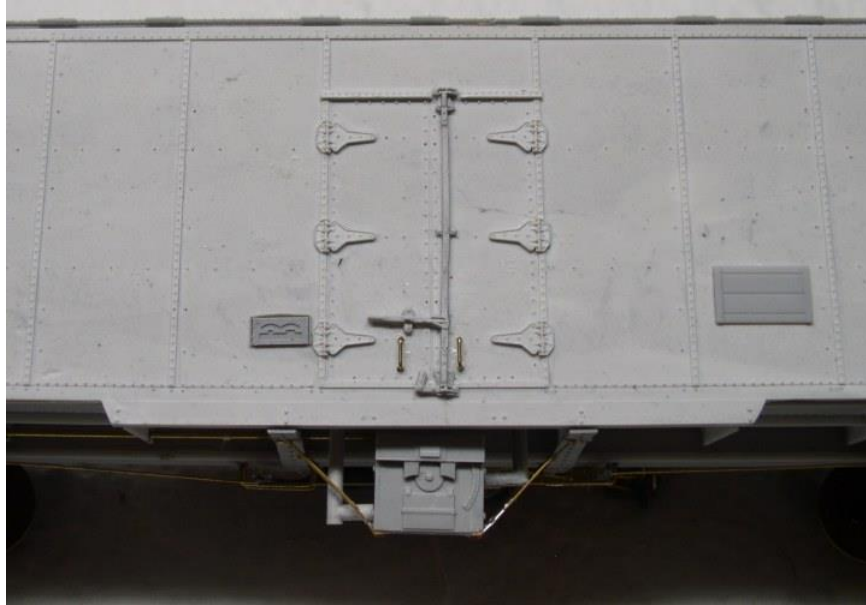

Figure LD2
- The Liquidometer originally was placed beside the lowest left hinge on the side where the charcoal heater is. Later, on some of the cars, it was moved to the centre of the panel. We have photos showing Series 1 cars in later colour schemes with the original positioning and the later positioning. You can choose. We chose the original placement. See Figure LD2.